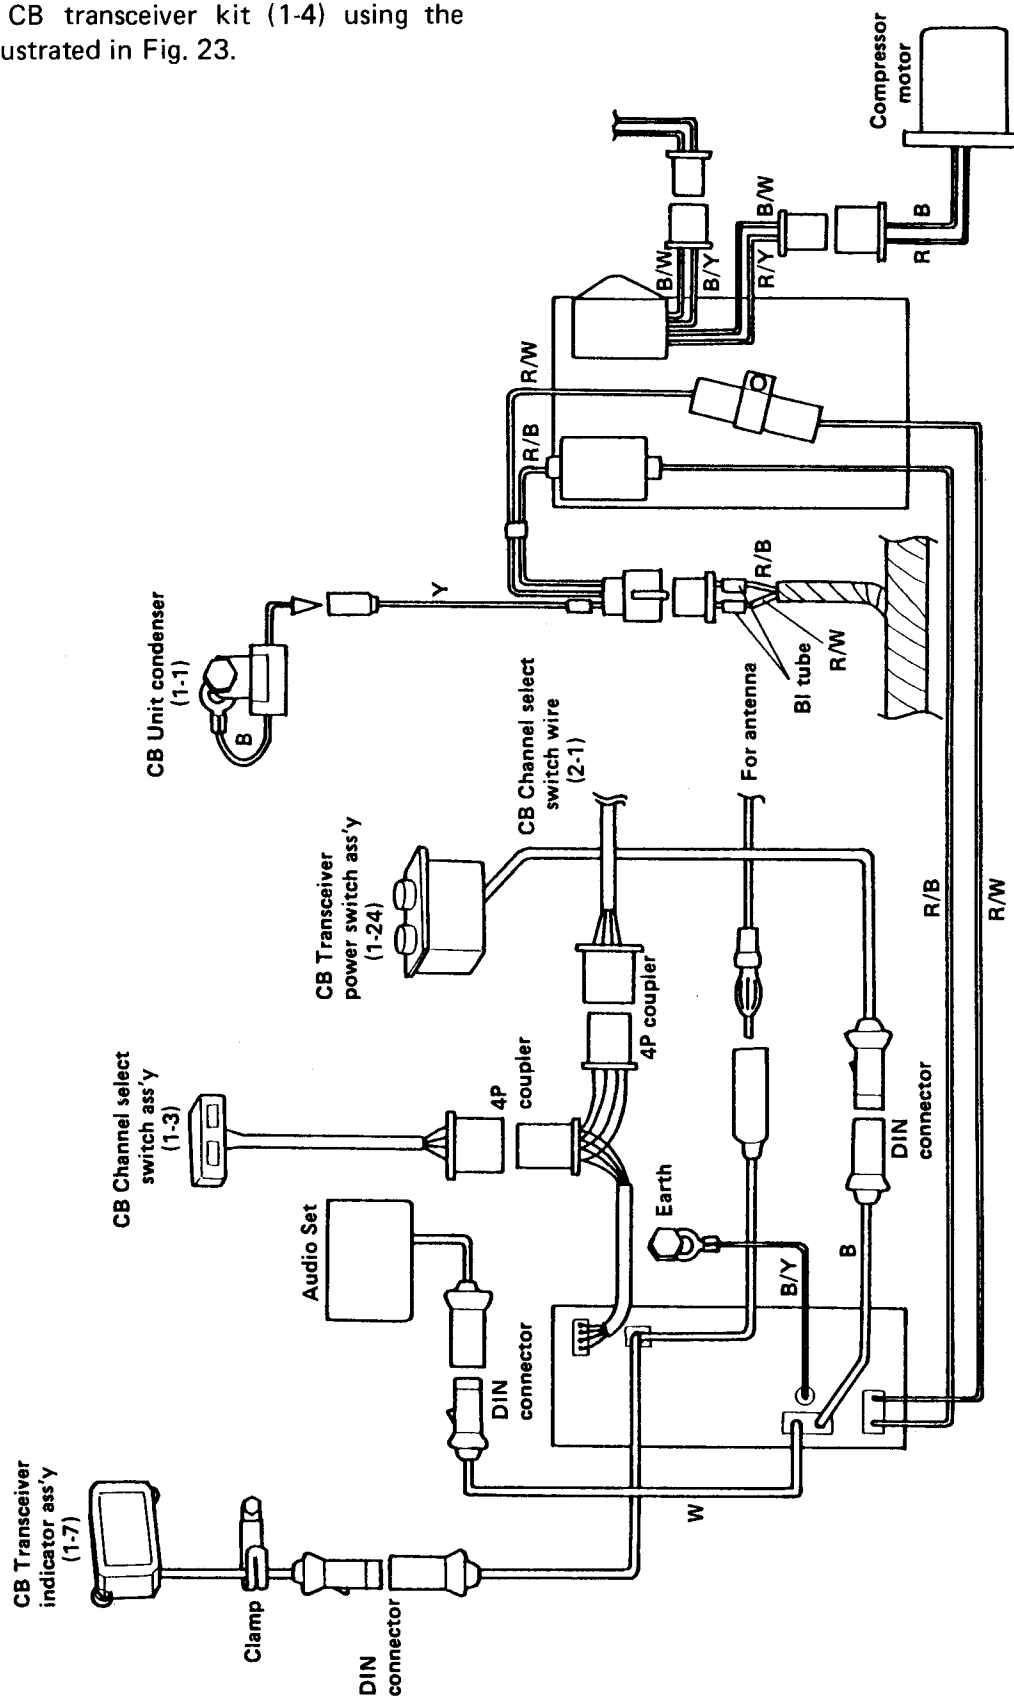

Fig. 23
22. Connect the respective mounted components to the CB transceiver kit (1-4) using the wires illustrated in Fig. 23.